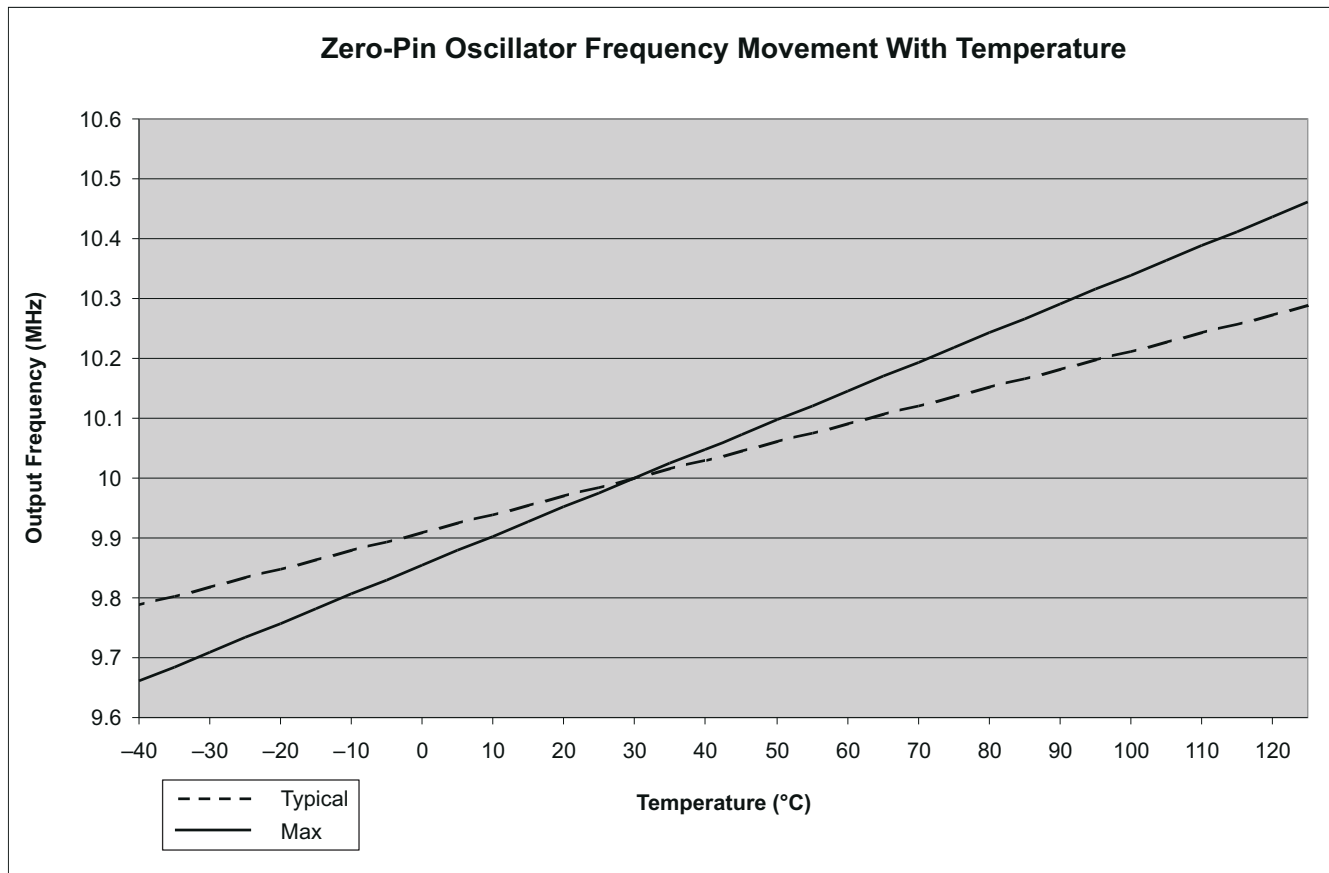

Figure 6-9. Zero-Pin Oscillator Frequency Movement With Temperature
- (1) Oscillator frequency will vary over temperature, see Figure 6-9. To compensate for oscillator temperature drift, see the Oscillator Compensation Guide and C2000Ware.
- (2) Frequency range ensured only when VREG is enabled, $\overline{VREGENZ} = V_{SS}$.
- (3) Output frequency of the internal oscillators follows the direction of both the temperature gradient and voltage (V_{DD}) gradient. For example: